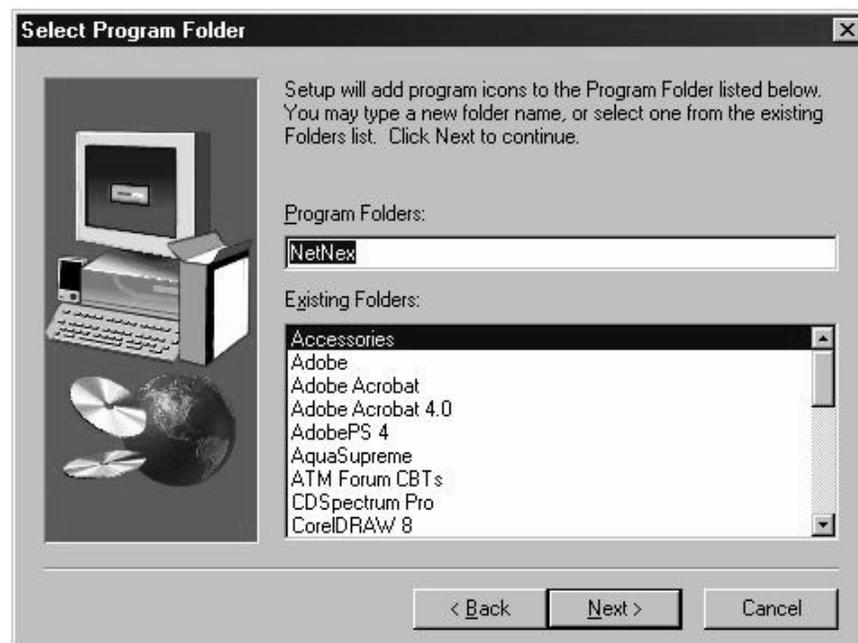

Figure 3-4: Select Program Folder Panel
5. Click **NEXT** to accept the default destination folder and proceed. The default destination address is listed at the bottom of the window. Use this folder or select **BROWSE** to choose an alternate location. The **Select Program Folder** panel displays. See Figure 3-4.